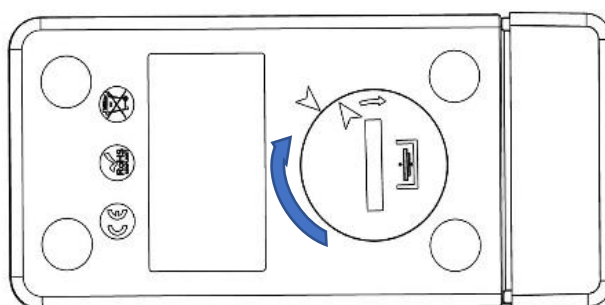

Figure 19 Battery replacement steps
- Battery Installation/change steps are shown in figure 19 as follows: